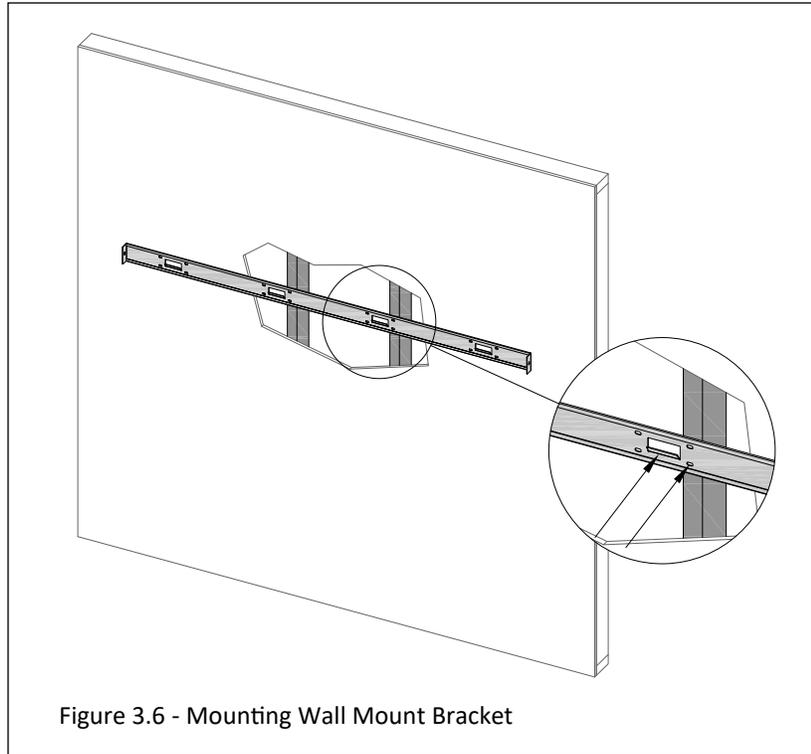

Figure 3.6 - Mounting Wall Mount Bracket
2. Mount the wall bracket on the wall in the desired location ensuring the bracket is secured to stud framing. Use all the mounting screws provided with the fireplace to mount the bracket to the wall (Figure 3.6).